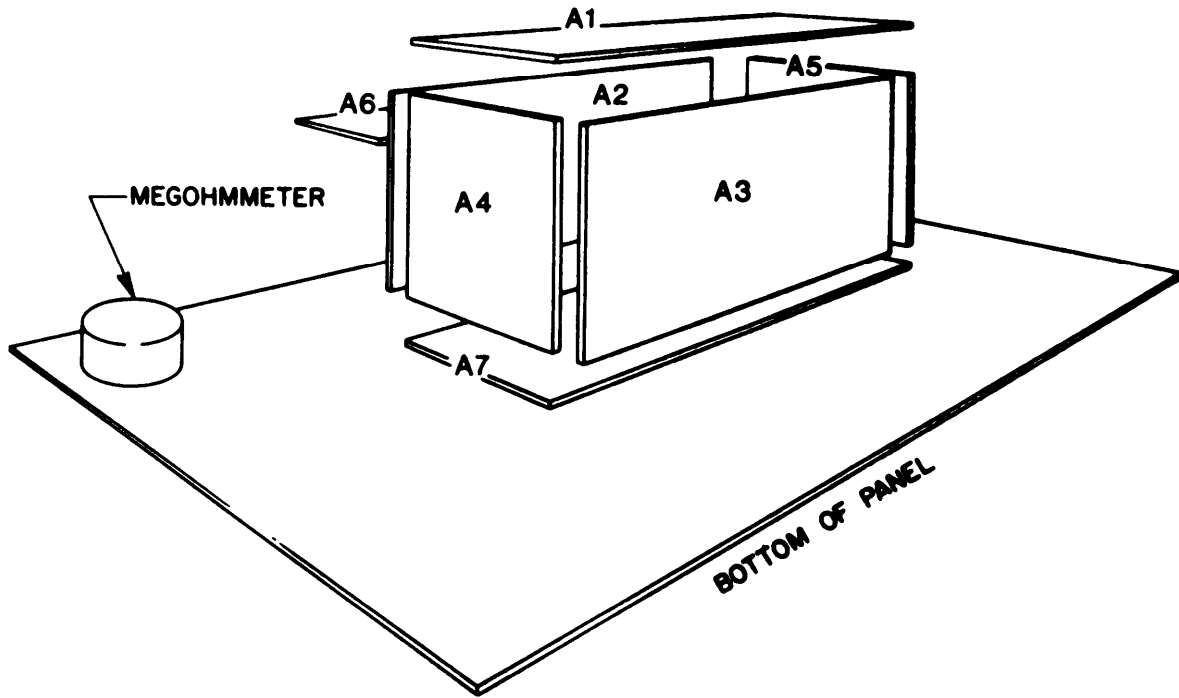

Figure 4-1. Circuit Card Location
*b.* The checkouts consist of verifying that the outputs at the pins on each board are within specification, If not within specification, replace board. Refer to Figure 4-1 for circuit card location.